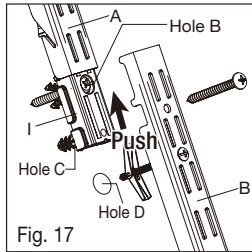

Fig. 17
- Push vertical rail joiner (I) up into upper vertical rail (A) as shown, secure the vertical rail joiner (I) on hole B with panhead screw (#12 x 2 in.) (see Fig. 17).